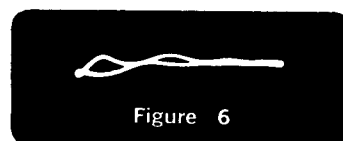

Figure 6
4. Adjust the oscilloscope controls for a full-size pattern centered on the screen. Figure 6.